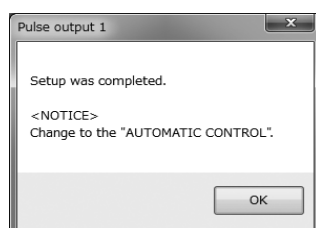

Fig.44
- ⑤ Click "OK" to change the settings to the inputted values, and then click the "OK" button in the displayed message box (Fig. 44) to complete the setting process.